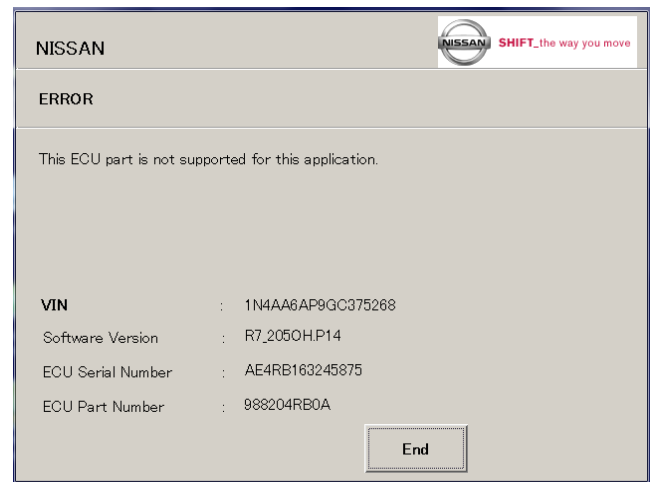

Figure 6
13. Is the screen in Figure 6 displayed?